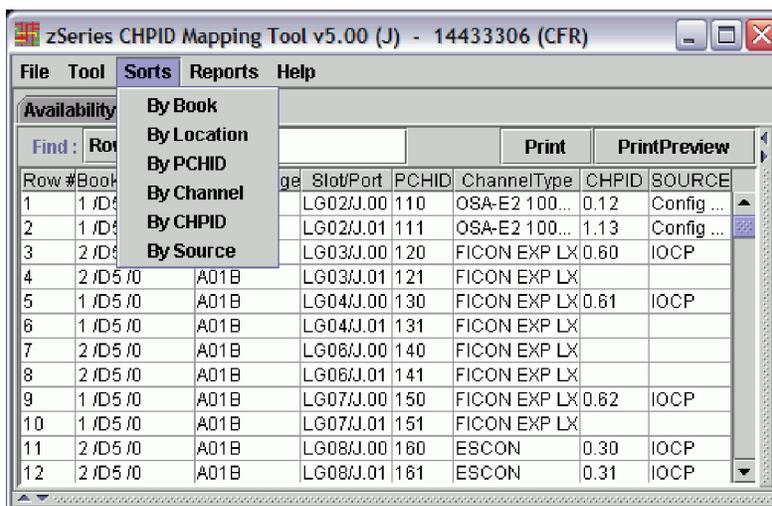

Figure 30. Sorting the Data
3. Optionally, you can sort the data by clicking **Sorts** (see Figure 30) and selecting the option that works best for you.